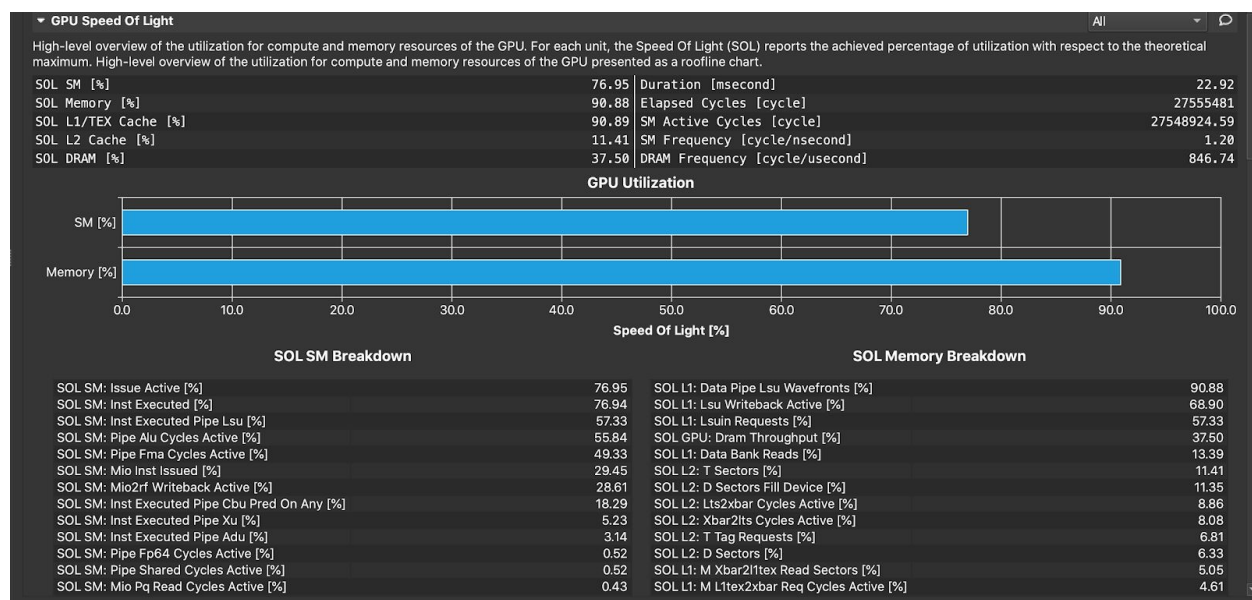
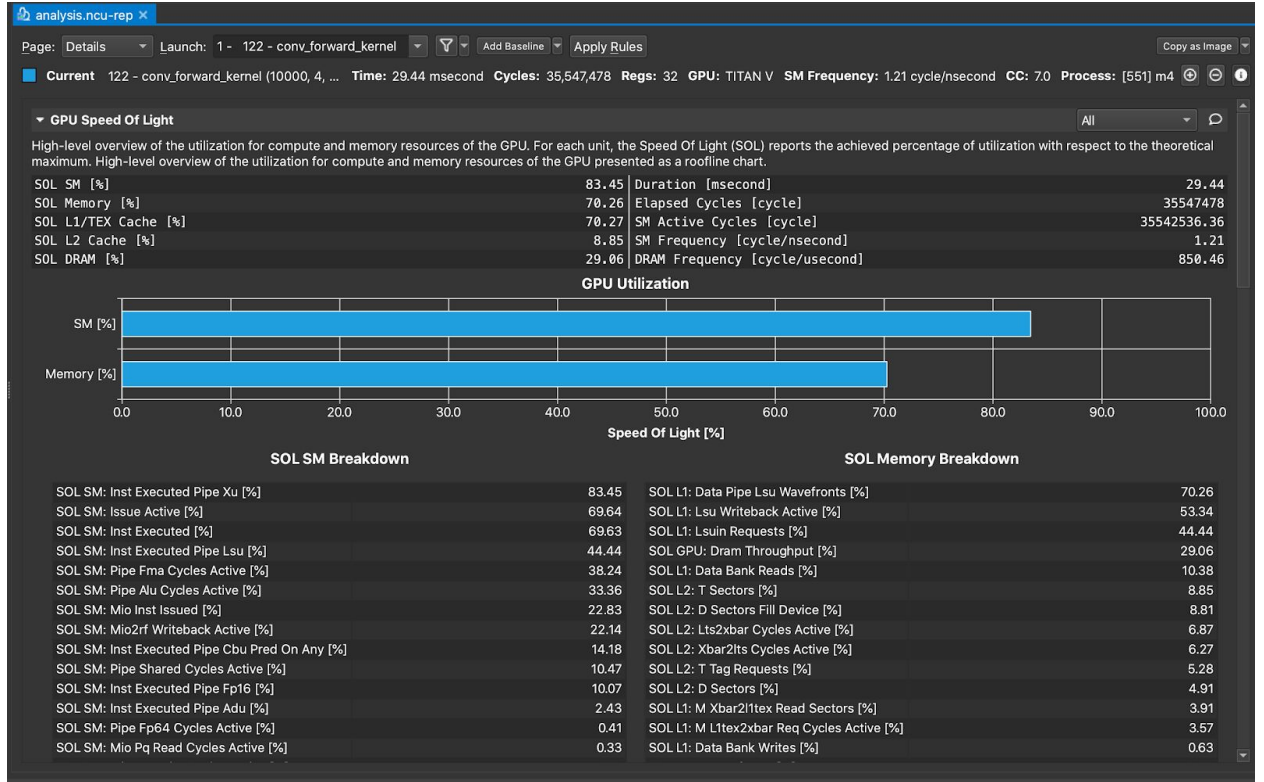
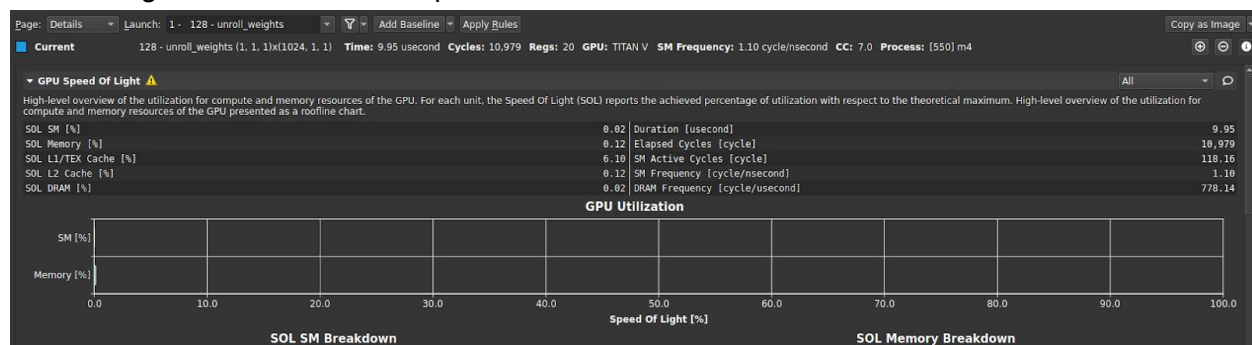

Figure 4: Nsight Stats for GPU Baseline Convolution for batch size = 10000
Figure 5: Nsight Stats for GPU Convolution with FP16 Optimization for batch size = 10000
Figure 6: Nsight Stats for unrolling weights kernel
Because this was not as insightful as we thought it would be, we then generated an insight report outlining the memory and compute usage. Having done so, we arrived at the results shown in Figure 5. As it can be seen when comparing Figures 4 and 5, this optimization was fruitful because the memory utilization drastically decreased from ~90% down to 70%. Therefore, whereas in the baseline kernel, we were bounded by the memory utilization, we are now bounded by the compute (SM) utilization, illustrating that this optimization was indeed beneficial.
To gain a better understanding of why a TILE_WIDTH of 8 performs better than a TILE_WIDTH of 32, we profiled our code and generated Fig. 6 using Nsight. As seen there, the SM and memory utilizations for the constant memory optimization are quite low compared to the baseline run shown in Fig. 4. The lower SM utilization can be attributed to the lower value of TILE_WIDTH (8) for the constant memory optimization as opposed to the greater value (32) for the baseline, whereas the lower memory utilization is a direct outcome of loading the weight in constant memory. From these observations, it is clear that the performance boost is strictly a result of minimizing calls to global memory by storing the convolution weights in constant memory.